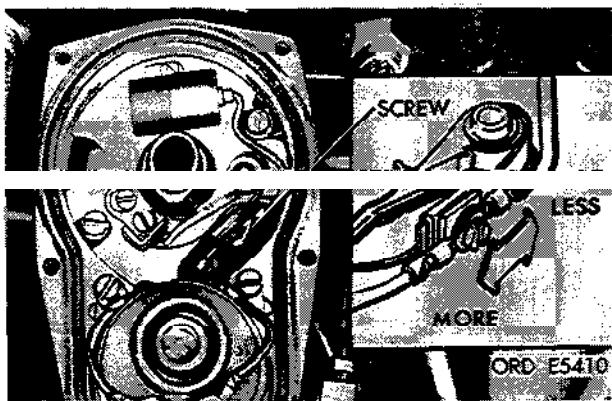

Figure 2-158. Adjust spring tension.
(2) Adjust spring tension (fig. 2-158) by positioning spring slot until desired tension is obtained and tighten terminal screw. Points should start to open with a pull of 17 to 20 ounces.